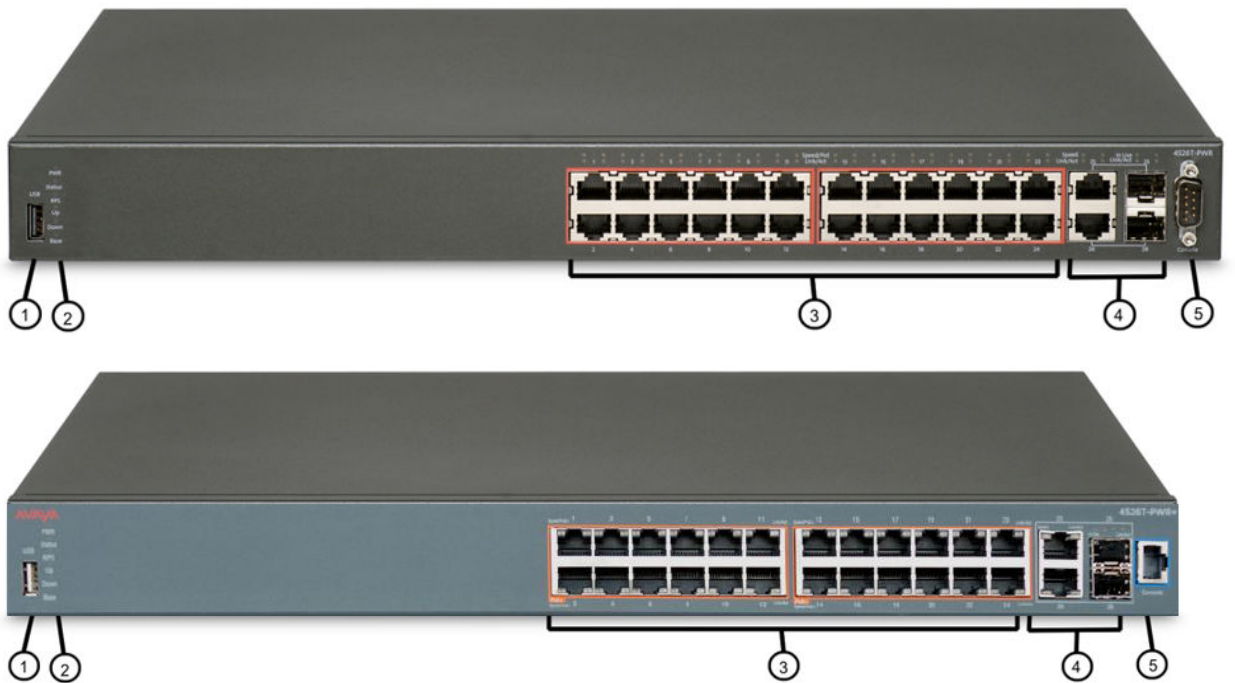

Figure 13: Avaya Ethernet Routing Switch 4526T-PWR and 4526T-PWR+
- Figure 13: Avaya Ethernet Routing Switch 4526T-PWR and 4526T-PWR+ on page 53